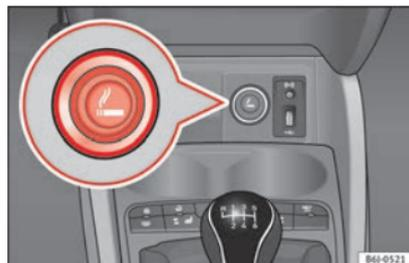

Fig. 145 Lighter.
- Press on the cigarette lighter » **Fig. 145** to activate it » **⚠**.